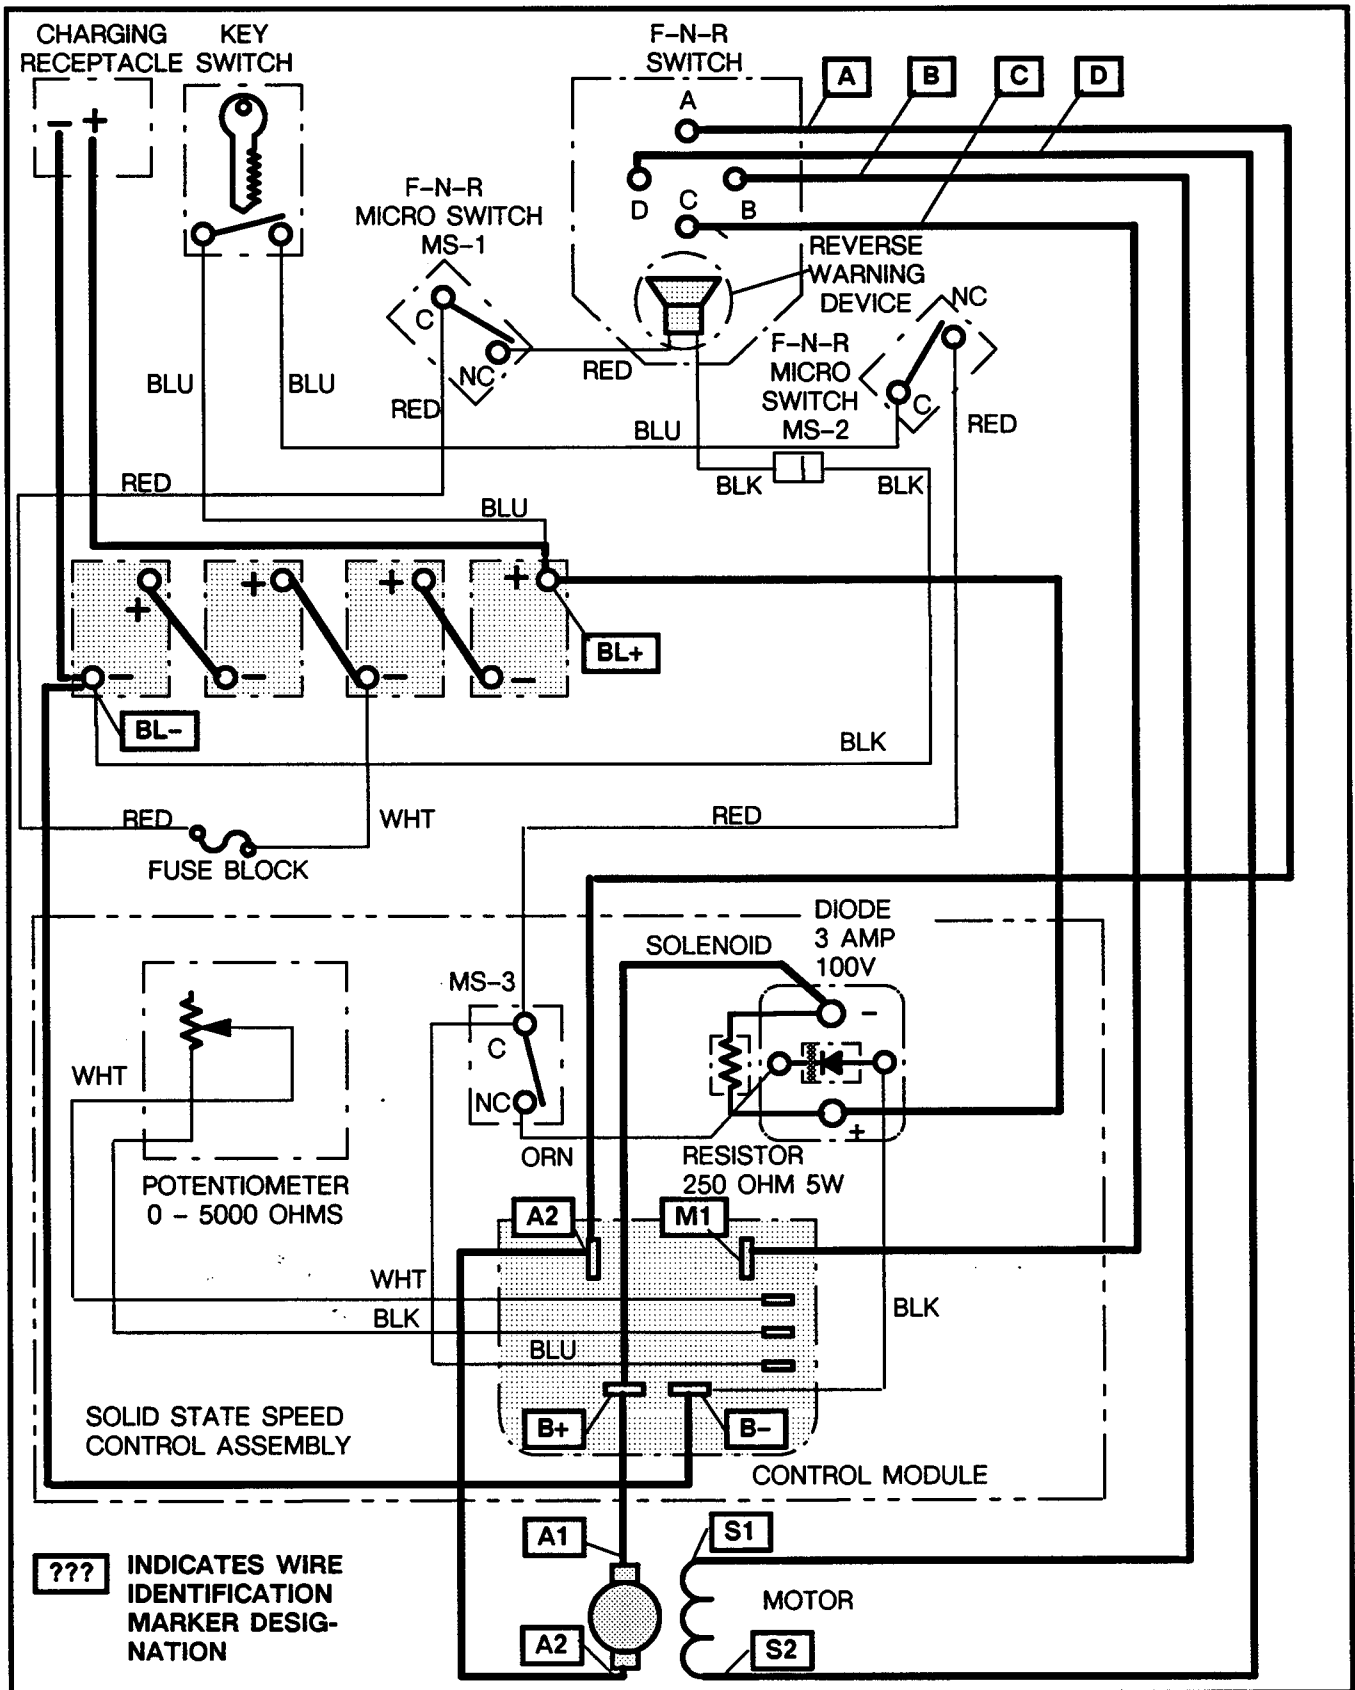

FIG. 23 POWER WIRING DIAGRAM
REVERSE WARNING DEVICE (FIG. 23)
The warning device (FIG. 23) should sound whenever the F-N-R switch is in the 'REVERSE' (R) position. Should the warning device fail to sound, the following procedure should be used to trouble-shoot the circuit.